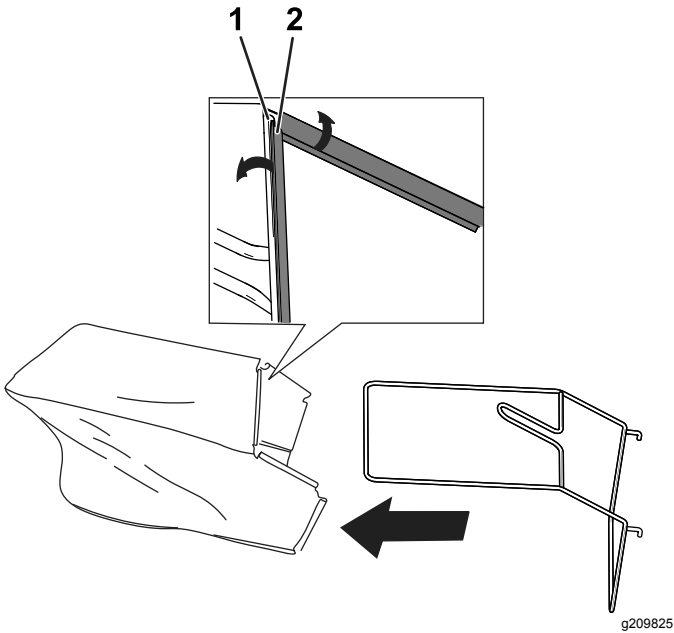

Figure 8
- 1. Slide the grass-bag frame into the grass bag (Figure 8).
- 2. Position all 6 grass-bag clips over the grass-bag frame (Figure 8).